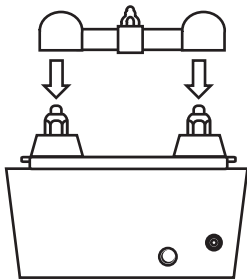

figure 4 – Receiver Collar Test Light
- Place the Test Light on the Contact Points of the Receiver Collar (*figure 4*).